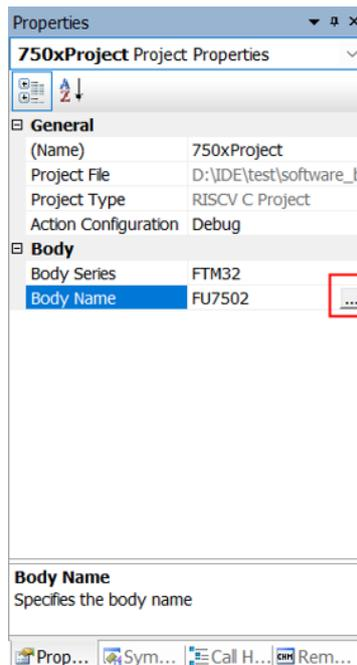

Figure 1-39
- Body: as shown in Figure 1-39